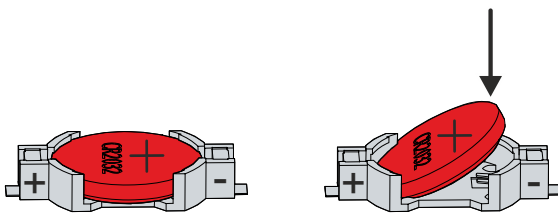

Fig. 13: CP77xx_battery change
- ⇒ The battery is now in an oblique position (see fig. 13).
5. Push the high side of the battery down into the battery holder (see fig. 13).